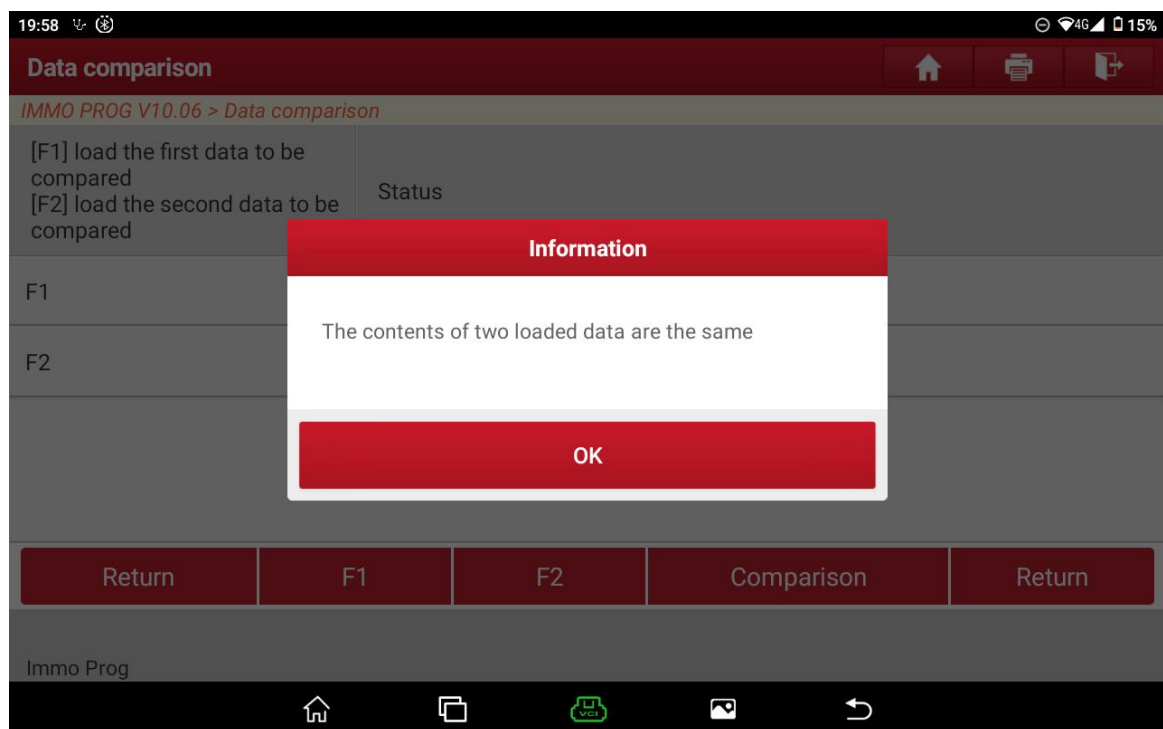

Figure 20
13. Click [Comparison], as shown in Figure 20. Finally load the external gearbox into the car.